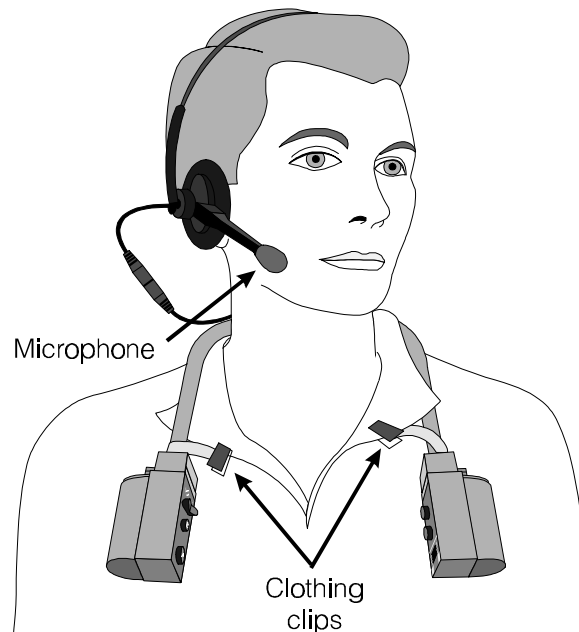

Figure 4. Correct wearing of the COM400CC
- ! Place the Communicator collar unit around your neck and put the headset on your head as shown in Figure 4.
- ! Fasten the clothing clips to your collar as shown in Figure 4.